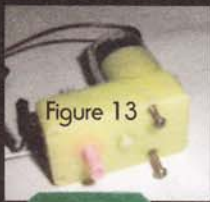

Figure 13
Remove screws from front motor (see figure 13) as shown and find the rear chassis plate (6), which will fit onto bottom of motor as shown in figure 14.